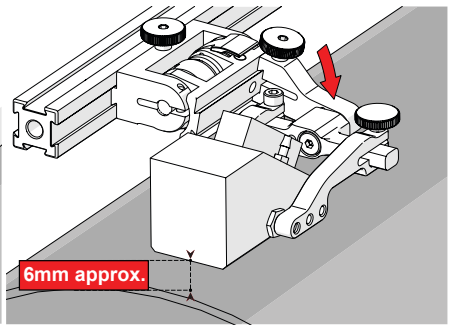

Fig. 77 - Lower to scanning surface
2. Push the probe holder yoke down toward inspection surface until the wedge is approximately 6 mm ($\frac{1}{4}$ in) above the inspection surface (Fig. 77).